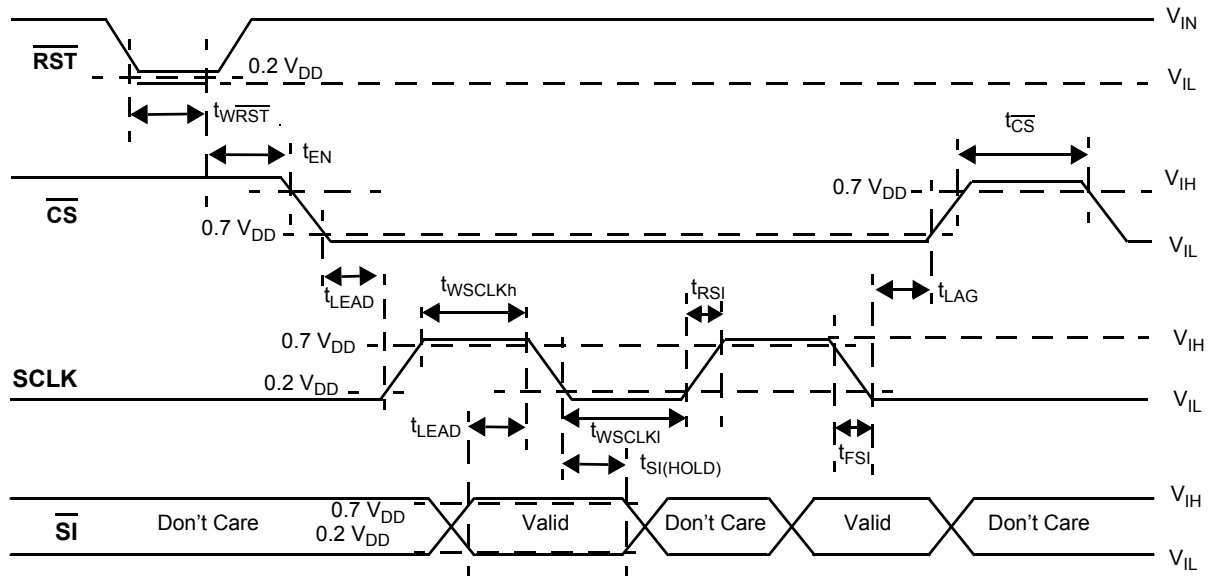

Figure 4. Input Timing Switching Characteristics
- The device shall meet all SPI interface timing requirements specified in the SPI Interface Timing section of this table, over the temperature range specified. Digital interface timing is based on a symmetrical 50 percent duty cycle SCLK Clock Period of 333 ns. The device shall be fully functional for slower clock speeds. See Figure 4 and 5.